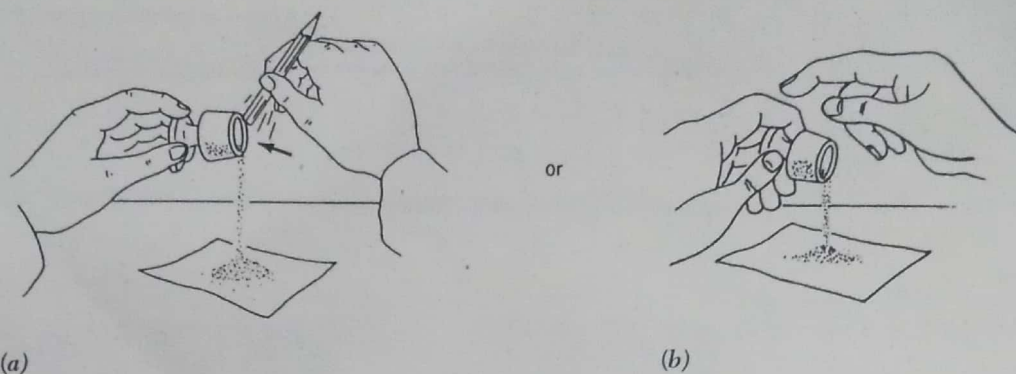

FIGURE 3.3
3. Place the bottle on the table. Gently tap the tilted stopper with a finger, pencil, or small spatula to dislodge enough of the desired material (Fig. 3.3).